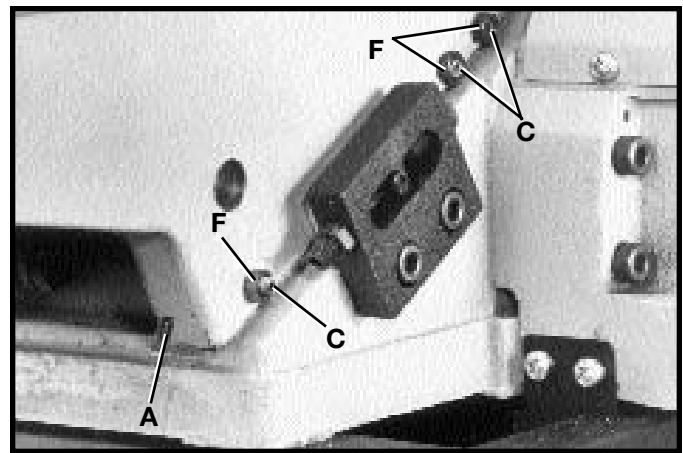
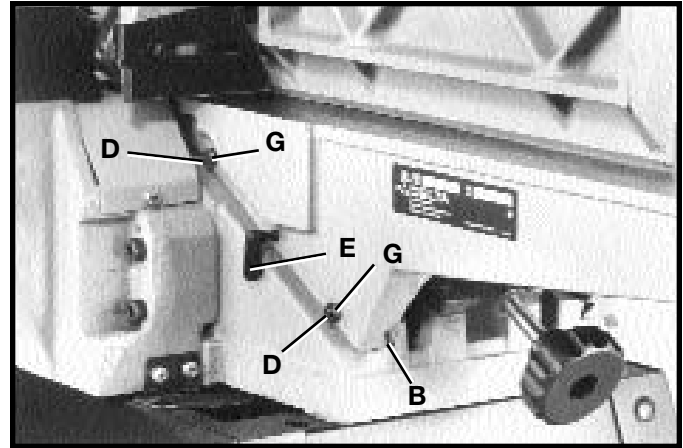

Fig. 46
Fig. 47
“Gibs” are provided to take up all play between the mating dovetail ways of the base and the infeed and outfeed tables. The “gib” for the infeed table is shown at (A) Fig. 46, and the “gib” for the outfeed table is shown at (B) Fig. 47. Proper “gib” adjustment is necessary for the correct functioning of the jointer. The “gibs” were adjusted at the factory and should require no further adjustment. If it becomes necessary to adjust the “gibs”, due to poor surface finish, proceed as follows:
1. To adjust the infeed or outfeed table “gibs,” loosen three locknuts (F) Fig. 46, for the infeed table or two locknuts (G) Fig. 47, for the outfeed table. For the infeed table, make sure the table locking lever is loose. For the outfeed table, make sure the table locking screw (E) Fig. 47, is loose.
2. Tighten or loosen three gib adjustment screws (C) Fig. 46, as necessary for the infeed table or two gib adjustment screws (D) Fig. 47, as necessary for the outfeed table; starting with the lower screw first and as you proceed to the top screw, gently raise the outboard edge of the table that is being adjusted. This will offset any tendency for the table casting to “droop or sag” and permit the gib to be adjusted to a secure fit. After the gibs have been adjusted, tighten locknuts (F) Fig. 46, (G) Fig. 47, table locking screw (E) Fig. 47, and infeed table locking lever.